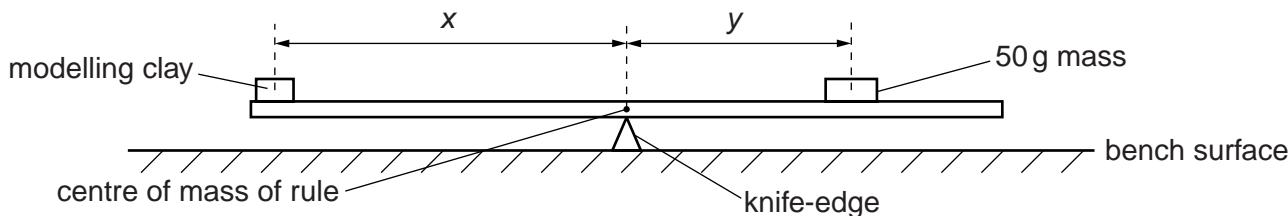

Fig. 1.1
- (b) Place the modelling clay at one end of the metre rule and adjust the position of the 50 g mass at the other end until the rule balances. The knife-edge must remain below the centre of mass of the rule. The arrangement is shown in Fig. 1.1.